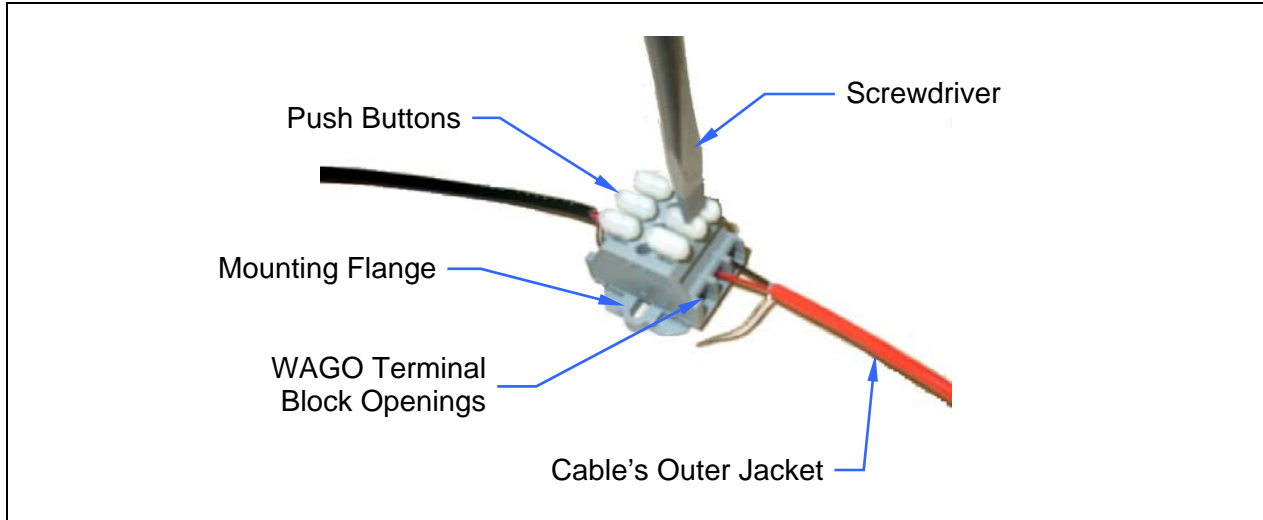

Figure 4-13: 3-Position Terminal Strip Connections
12. At both ends of the spooled plenum cable, simultaneously insert the red and black wires into two poles of the terminal block by simultaneously pushing two adjacent buttons down with a large #2 flathead screwdriver, and guiding the bare end of the wire into the side openings of the terminal block. Next, release pressure on the buttons while ensuring the bare wires are visible entering the block's clamping mechanisms. See Figure 4-13. The order of wires in the terminal block housing does not matter, but the red and black wires must be next to each other. Consistency between the two blocks is recommended.